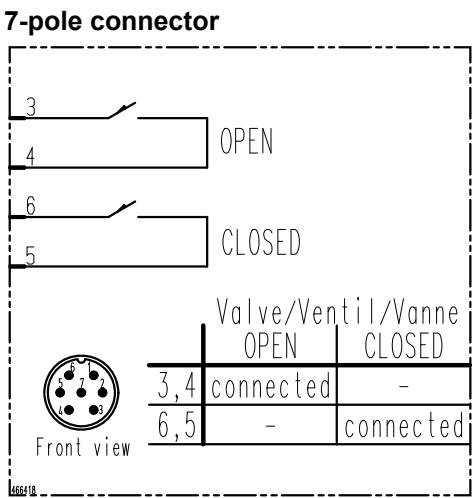

Figure 4-1 Wiring diagram
- Valve without pilot valve; see «Figure 4-1» on page 19.